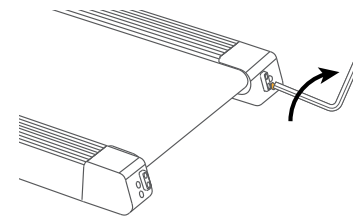

Figure 2
- If the walk belt has shifted to right, use the **hex tool A** to turn the right idler roller screw clockwise **1/4** of turn(refer to figure 2).